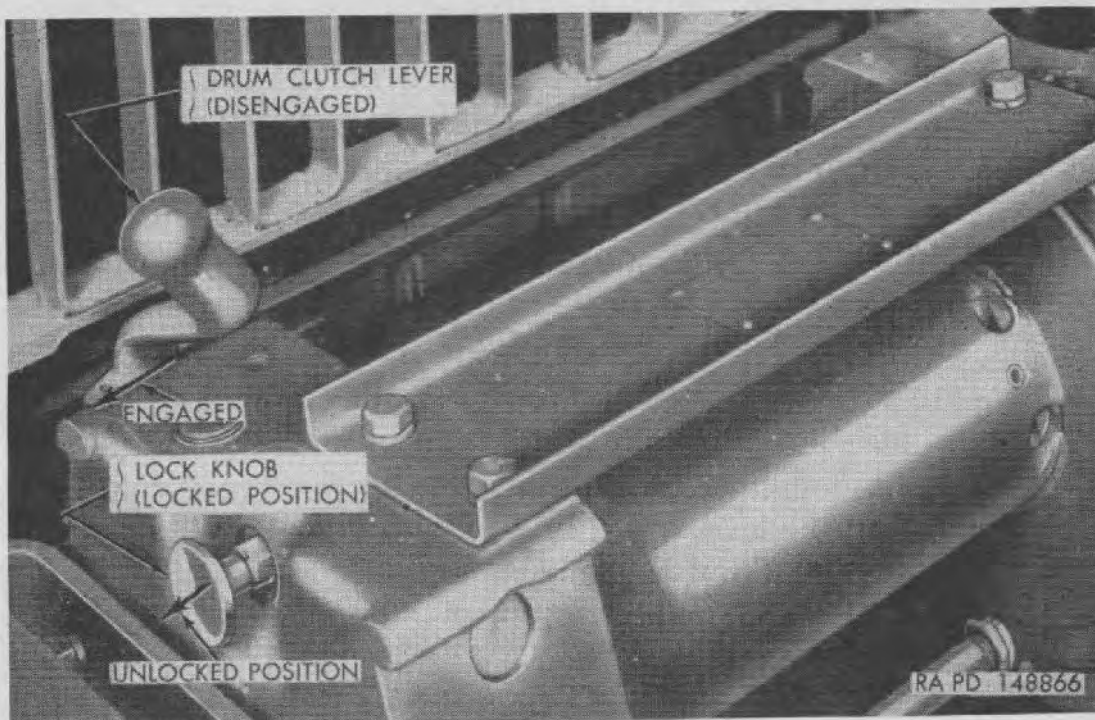

Figure 18. Controls at winch.
- (1) *Drum clutch lever.* Hand operated lever, located at right side of winch (fig. 18), is used to engage or disengage winch drum from power-take-off drive shaft. Pulling the lever away from winch engages drum. Pushing lever in toward winch disengages drum.
- (2) *Lock knob.* Lock knob, on right side of winch frame (fig. 18), locks drum to prevent cable unwinding, as when under way. Knob is pulled out and turned one-quarter turn to disengage drum. To again engage drum, turn knob one-quarter turn and release. Inner end of lock engages one of several holes in drum.
- (3) *Automatic controls.* An automatic safety brake in winch mechanism will sustain a load while power-take-off lever is being positioned. A drag brake will prevent drum from over-running cable when cable is being pulled from drum.
- (1) Place power-take-off lever into NEUTRAL.
- (2) Push drum clutch lever at winch (fig. 18) in toward winch drum (disengaged position). Winch will not operate with lever in this position.
- (3) Make sure that lock knob (fig. 18) is in, engaging drum (locked position). Cable will not unwind with lock knob in this position.
- (a) Pull out lock knob at winch (fig. 18) and rotate one-quarter turn to disengaged position (knob out).
- (b) Pull drum clutch lever (fig. 18) outward as far as possible (away from winch drum).
- (a) At winch, pull out lock knob and rotate one-quarter turn to unlocked position (fig. 18). Pull drum clutch lever outward as far as possible (away from winch drum).
- (1) Paying out or unwinding cable under load should be accomplished in the cab.
- (2) At winch (fig. 18), pull out lock knob and rotate one-quarter turn to hold in unlocked position. Pull drum clutch lever as far as possible away from winch drum (engaged position).
- (3) Place transmission control lever in N (neutral). Start engine.
- (4) Place transfer lever in DOWN-NEUTRAL position. Place power-take-off lever in UP-REVERSE position.
- (5) With engine idling, place transmission control lever into F-2 LOW RANGE.
- (6) Accelerate engine (not over one-third throttle) to pay out cable.
- (1) *From cab.*
- (a) At winch (fig. 18), pull out lock knob and rotate to unlocked position (knob out). Pull drum clutch lever outward as far as possible away from winch drum (engaged position).